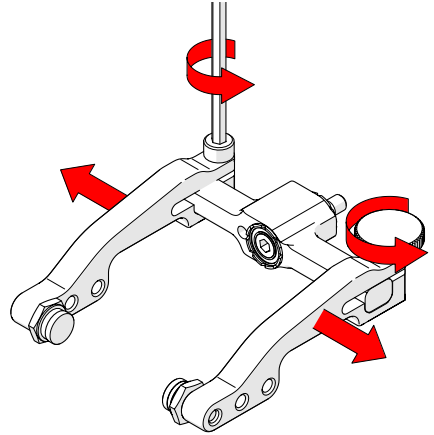

Fig. 60 - Remove arms
2. Loosen the probe holder arm adjustment knob and arm clamp screw. Slide the arms from the yoke (Fig. 60).